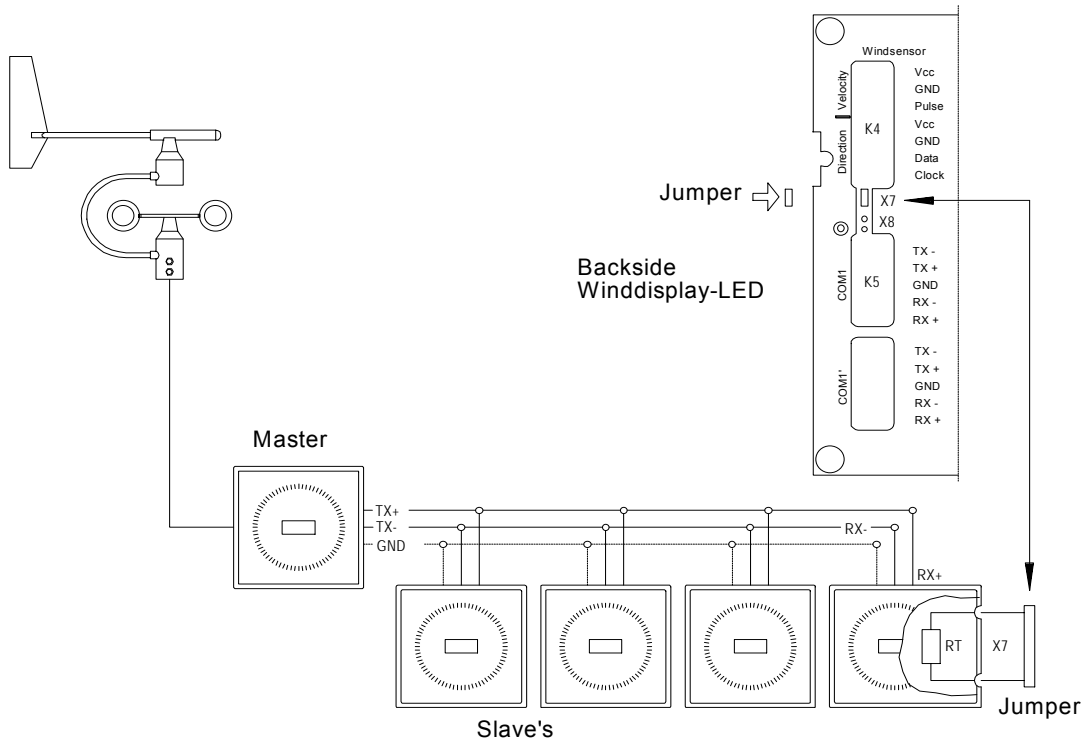

Figure 3: Example for connection
For termination using long cables the rear of the wind display is equipped with contact pins X7, which can be bridged from outside using a jumper if required (ref. figure 3).
- The cable must always be terminated with its surge impedance. An impedance of 100 Ω to 600 Ω at the receiver is suitable for this purpose (depending on the cable). With more than one receiving Winddisplay LEDs (Slaves) the resistor must be located at the receiver furthest from the transmitter. A shorting plug at the receiver is used to activate an installed termination resistor (see Fig. 3).
- When a jumper (X7) is inserted at the receiver (Slave) the integrated termination resistor (RT=200Ω) must be activated (ref. figure 3.).